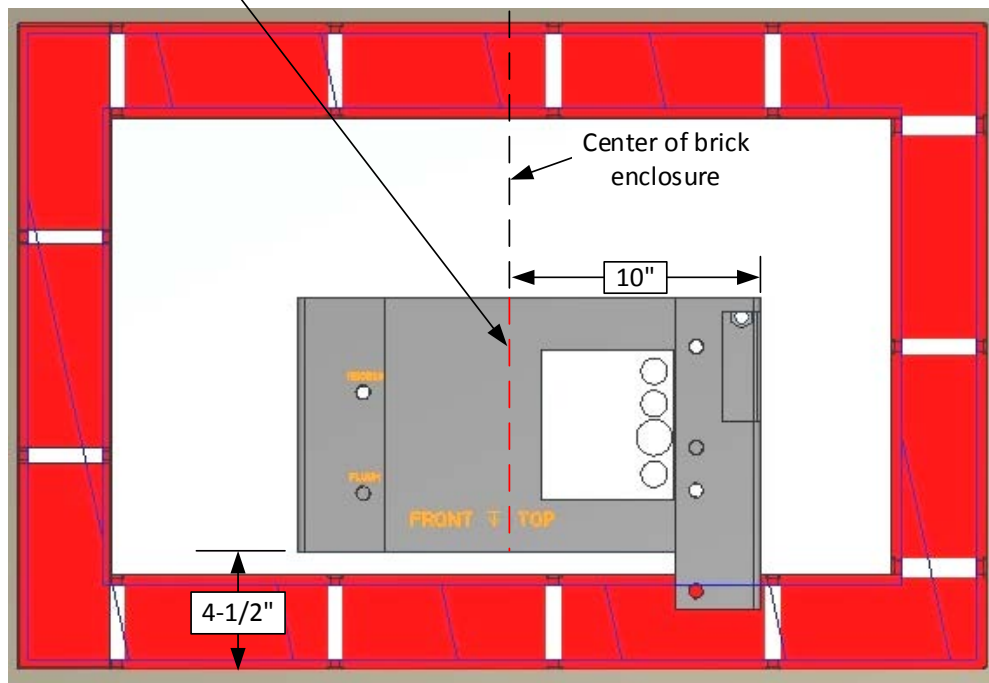

Figure 18. Positioning the Adaptor Plate
5. Sink the adaptor plate with anchor bolts into the wet concrete, until the top of the adaptor plate is 35" from the road surface. Position the adaptor plate 4½" back from the front edge of the brick, and center the mark on the adapter plate created in step 1 above with the inside of the brick enclosure, as shown in Figure 18. Level the adaptor plate while the concrete is still wet.